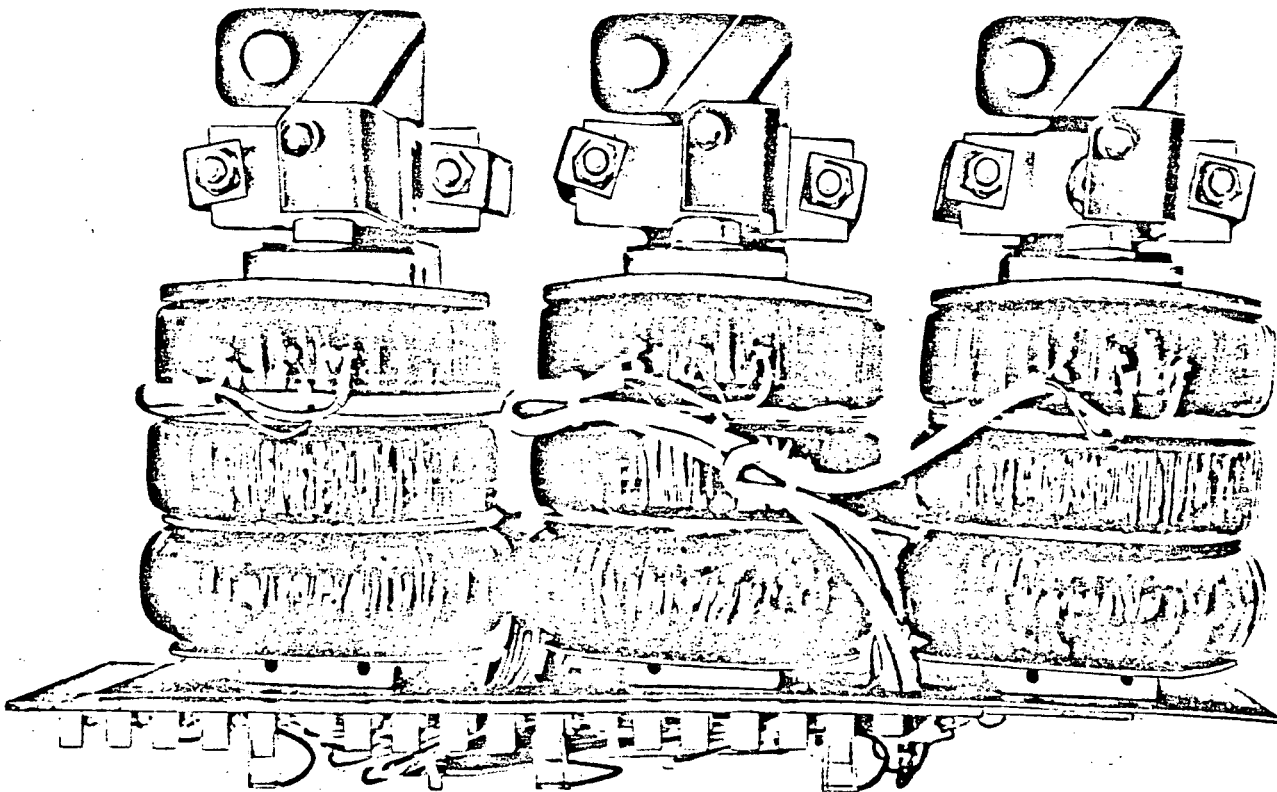

Figure 14. (8041866) Magnetic Coils
#### SENSOR COILS (Figure 14).
1. The magnetic coils around the breaker conductors (Figure 14).